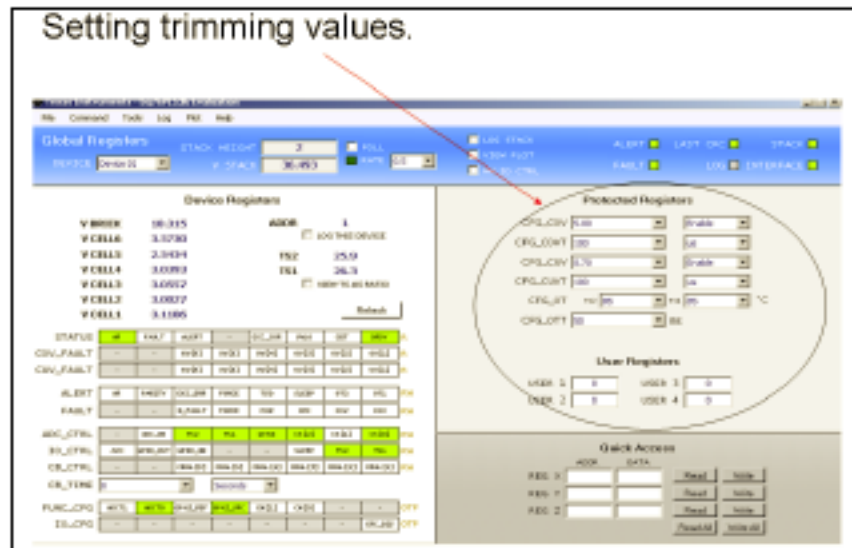

Figure 3. Setting Trimming Value
- (b) Set trimming values. See Figure 3.